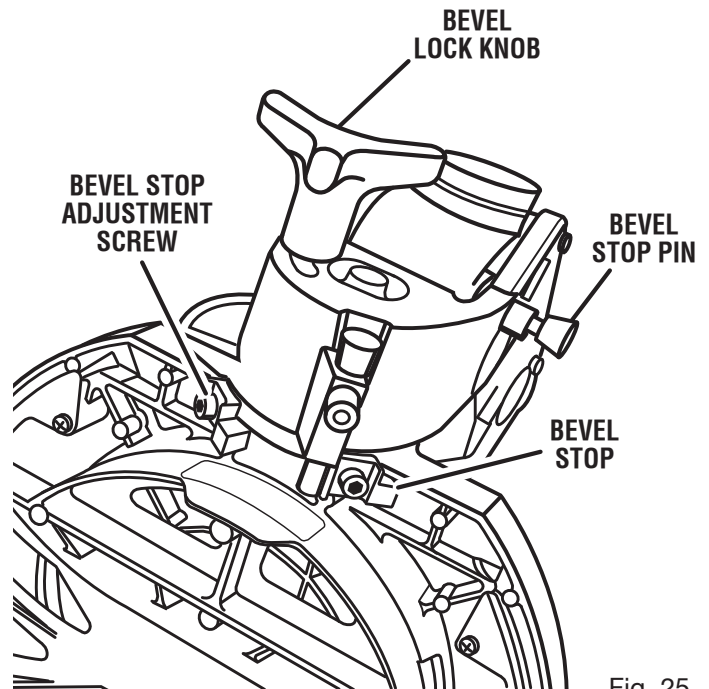

Fig. 25
- Using the blade wrench, loosen the bevel stop adjustment screw and slide the bevel stop left or right as needed to bring the saw blade into alignment with the square. Retighten bevel stop adjustment screw. See Figure 25.